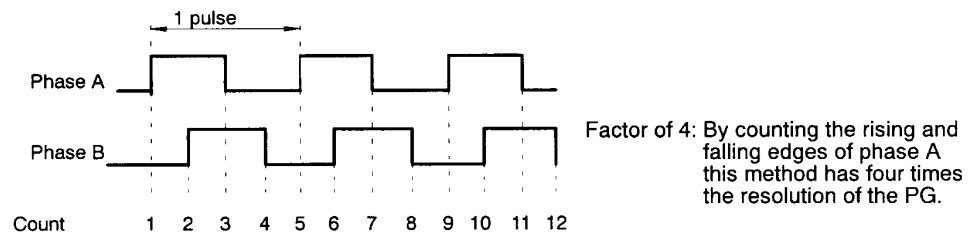

Figure 7.8 Pulse Count Factored by 4
- Set the Zero Servo Completion Width to four times the number of pulses from the PG, as shown in *Figure 7.8*. For example, when a 600 p/r encoder is being used, the number of pulses would be 2,400 p/r after multiplying by 4.